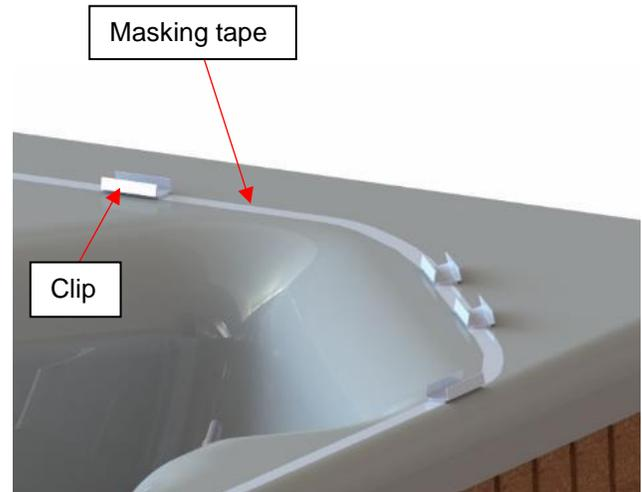

Figure 113
- 3) Apply the provided masking tape around the swim spa where the seal will be installed. The masking tape will ensure the seal is straight when pulled corner to corner. The ideal location for the seal is closer to the swim spa's interior edge, but on a flat surface (Figure 113). The minimum turn radius for the seal is 4" (10 cm).
- 4) Apply the provided seal clips parallel to the masking tape around the swim spa and make sure there is more in the corners and on any tight turns (around filters, etc.). Keep in mind that a limited number of clips are provided. Install two clips where the seal joint will be located (Figure 113).